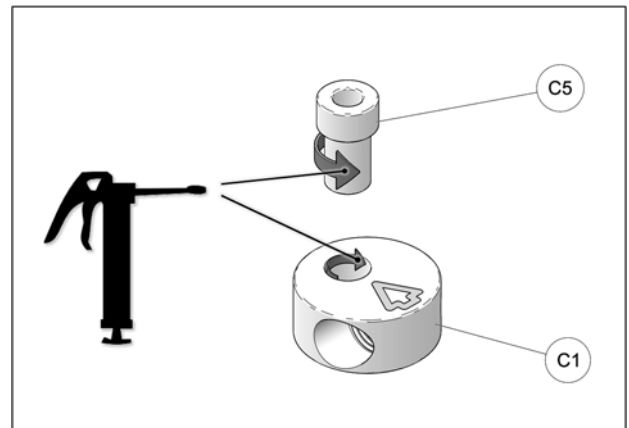

Fig. 19
11. Apply grease evenly all around step spacer bushing (C5) and in hole of aluminum disk (C1) when assembling these parts together. See Fig. 19